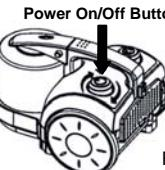

Fig. 11
2. Press the Power On/Off button located on the unit to turn the vacuum cleaner "On". (Fig. 11)